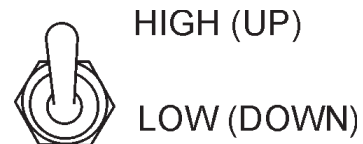

Figure 67. Engine Speed Switch (High)
3. Set the engine speed switch (Figure 67) to the "**High**" position.
1. Place both the **MAIN**, **GFCI** and **LOAD** circuit breakers as shown in Figure 67 to the "OFF" position".